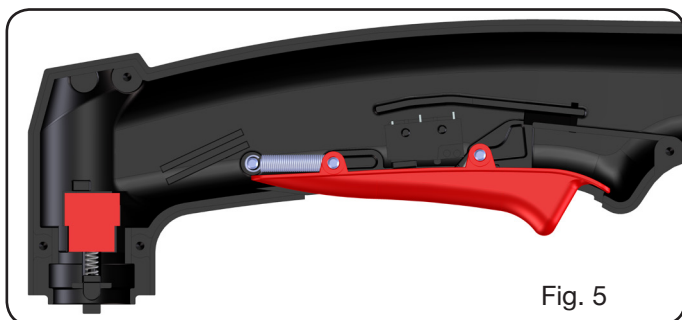

Fig. 5
- connector **B** (pilot arc) making sure that the push-button components (see Fig. 5) remain in the original position.